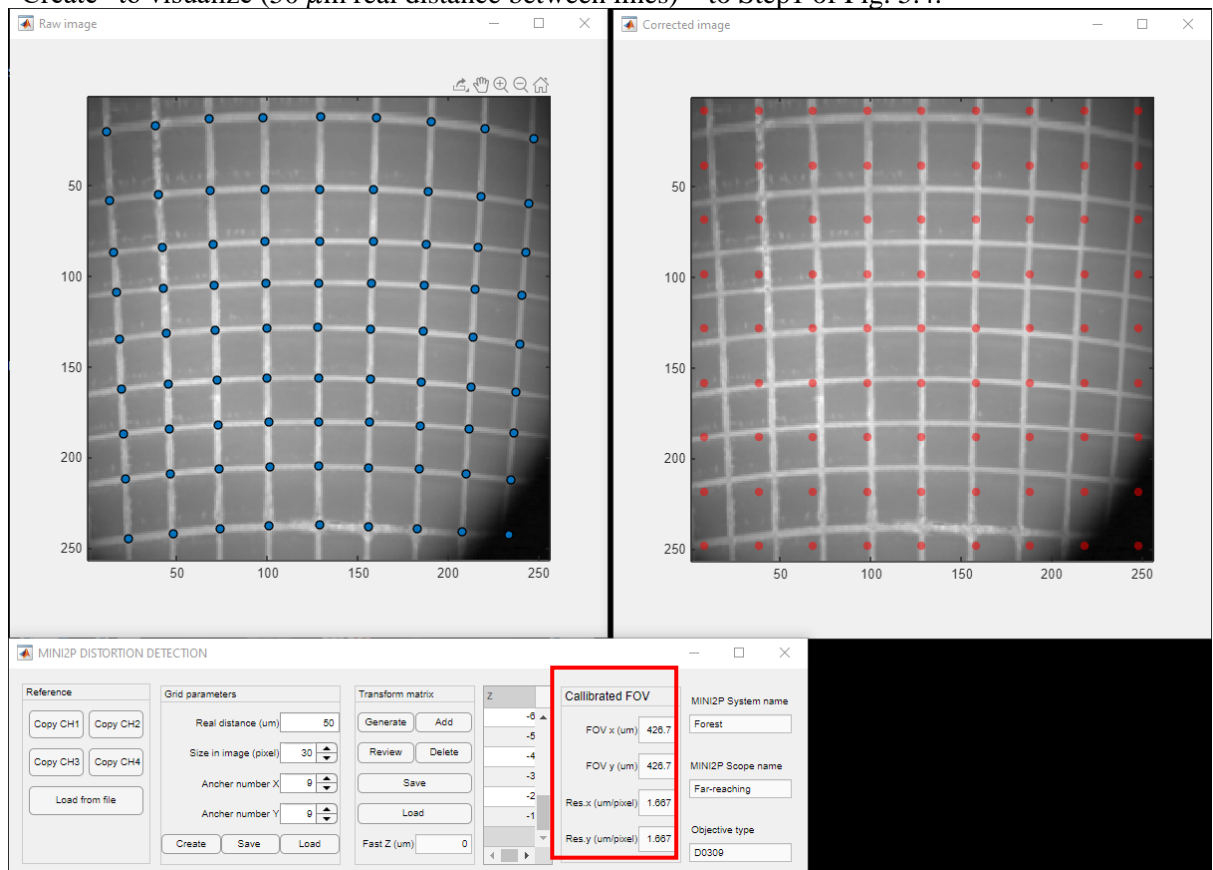
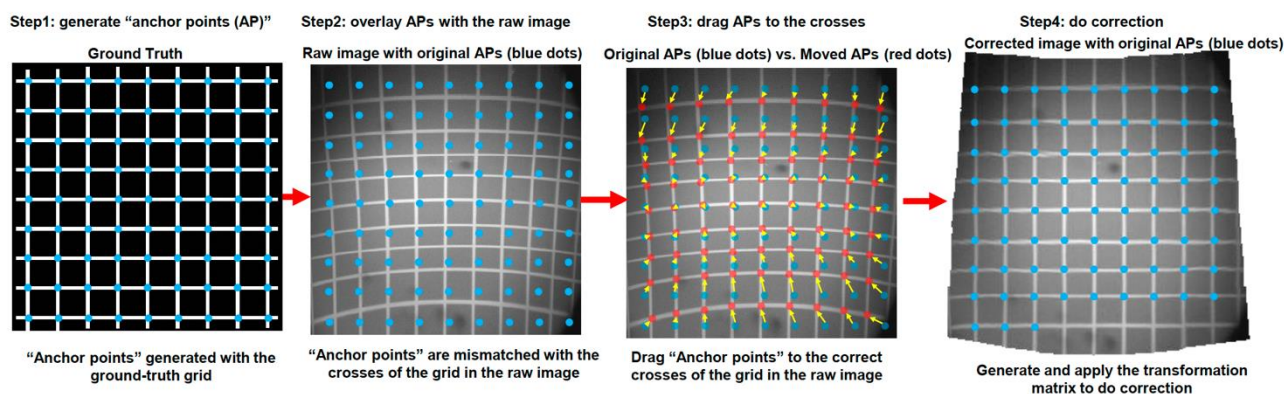

Fig. 5.3: Graphical user Interface of MINI2P SI device with estimated of FOV highlighted in red.
Fig. 5.4: Taken from Fig.S3(B) of Weijian Zong et al., 2022
5.7 In the top left App Menu ‘Reference, click “COPY CH1” or “LOAD” FOVavg.tiff (see Fig.5.3).
5.8 Select number of anchor points (APs) X and Y and size in image (distance between APs) and press “Create” to visualize (50 μm real distance between lines) – to Step1 of Fig. 5.4.
- 5.9 Modify Anchor Point Pairs parameters such as grid numbers and starting points in both axes, as well as equally digital interval (pixels) such that the resulting APs overlap, as much as possible, the intersection points of the recorded grid (see APs of Fig.5.3-5.4). Notice typical mismatch of raw image with original APs (see step 2 of Fig. 5.4)
- 5.10 Drag, using your cursor, the original APs to the intersection points in the grid image, and click “Generate” to apply the transformation (Step 3 of Fig.5.4 and Fig.5.3)
- 5.11 Repeat Step 5.10 until the Corrected Grid (see Step 4 of Fig.5.4) looks evenly symmetric and all vertical and horizontal lines look orthogonal.